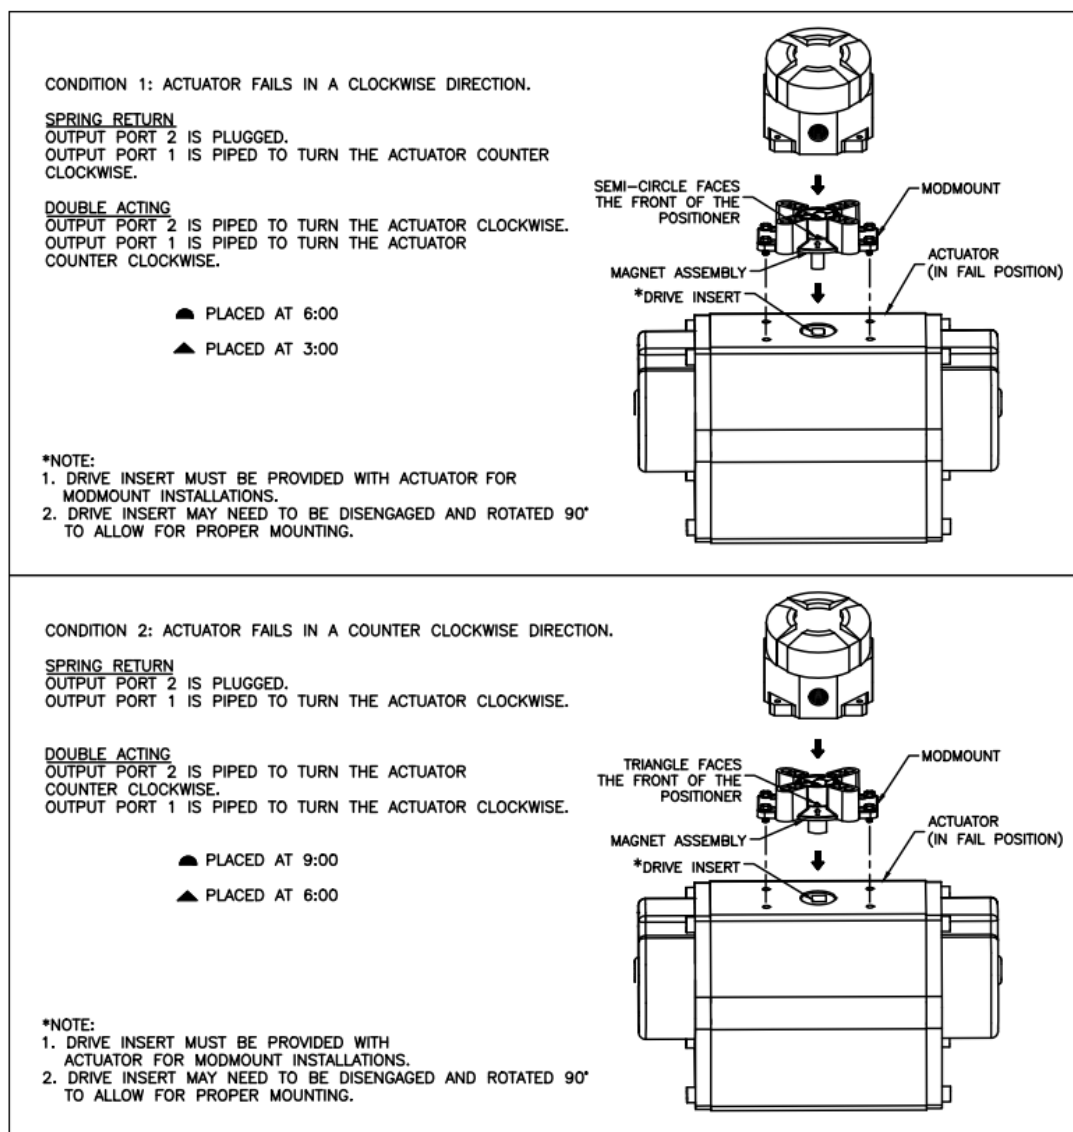

Figure 3-3
Step 2. The visual indicator needs to be properly oriented. Use the symbols on the bottom of the indicator to mount as shown in Condition 1 or Condition 2. (see figure 3-3). Condition 1 and Condition 2 show the placement of the indicator with respect to the positioner housing while the actuator is in the fail position.